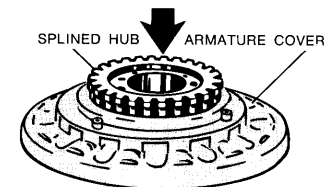
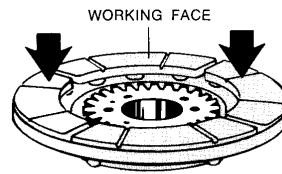

Figure 1.
Figure 2.
2. If the armature and hub are not assembled, the armature should be placed on a flat surface with the working face down. With the hub flange up, align the spline in the hub with the spline in the armature (figure 1). Then press the hub down into the armature. Care should be taken not to cock the hub. Turn the assembly over and push the armature down over the hub until the armature contacts the hub flange (figure 2).